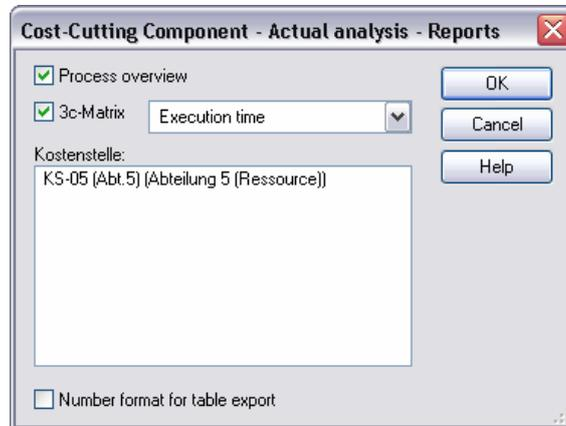

Figure 441: Process cost analysis - Report selection
When the calculations are done, the "Cost-Cutting Component - Actual analysis -Reports" (see fig. 441) (or "Cost-Cutting Component - Plan analysis - Reports") results window is displayed.
**Hint:** It is recommended not to open all available reports at once because too many windows could make your desktop unclear. The "Cost-Cutting Component - Actual analysis - Reports" (see fig. 441) (or "Cost-Cutting Component - Plan analysis - Reports") window remains open until the end of the process cost analysis, which means you always have the possibility to open additional windows or reopen the ones you closed.